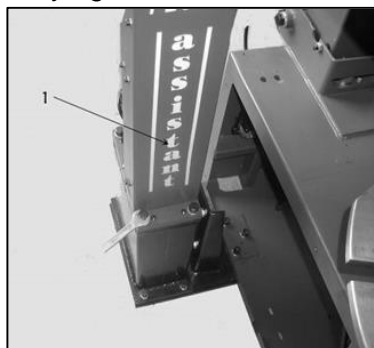

Fig. 32-1
6.1.4 Install the body bracket (Fig.32-1) on the base assembly. Align holes and connect to base using the screws that were removed. Do not fully tighten at this time.